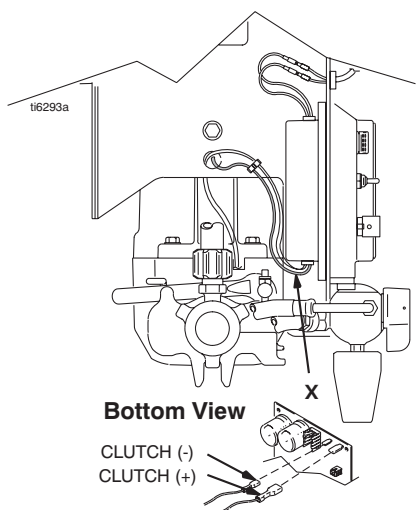
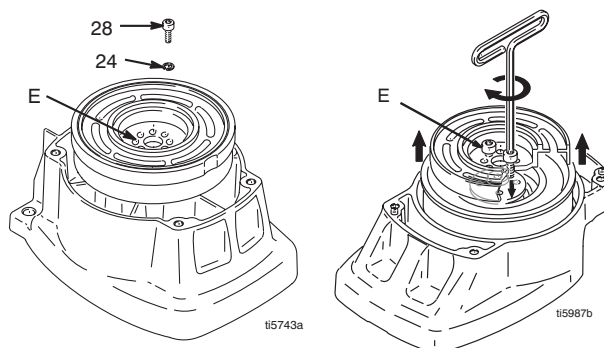

FIG. 4
FIG. 6
1. If pinion housing (29) is not removed from clutch housing (19), do 2. through 5. Otherwise, do 2 and then start at 6.
3. FIG. 4. Disconnect clutch cable connectors.
- a. Remove two screws (71) and swing down cover (130a).
- b. Remove strain relief (171).
- c. Disconnect clutch cable connectors (X).
5. FIG. 6. Place pinion housing (29) on bench with rotor side up.
6. Remove four screws (28) and lock washers (24). Install two screws in threaded holes (E) in rotor. Alternately tighten screws until rotor comes off.
12. FIG. 6. Place pinion housing on bench with rotor side up.
13. Apply locktite to screws. Install four screws (28) and lockwashers (24). Alternately torque screws to 125 in-lb until rotor is secure.
14. Push pinion housing (29) assembly onto clutch housing (19e). Tap lightly on front of bearing housing (40) with a plastic mallet to push drive housing and pinion housing assembly onto clutch housing.
15. Install pinion housing with five screws (36) and lockwashers (37).
16. FIG. 4. Connect clutch cable connectors (X) to board.